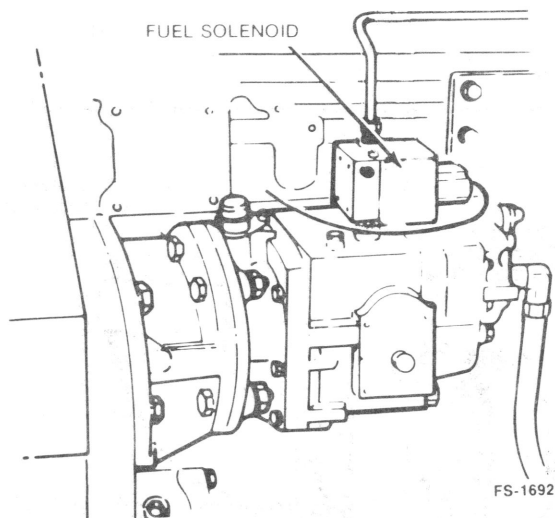

FIGURE 19. FUEL SOLENOID VALVE LOCATION
5. Disconnect wire from fuel solenoid valve (Figure 19), close throttle and crank engine while maintaining an external prime pressure of 15 psi (103 kPa), for 15 seconds.